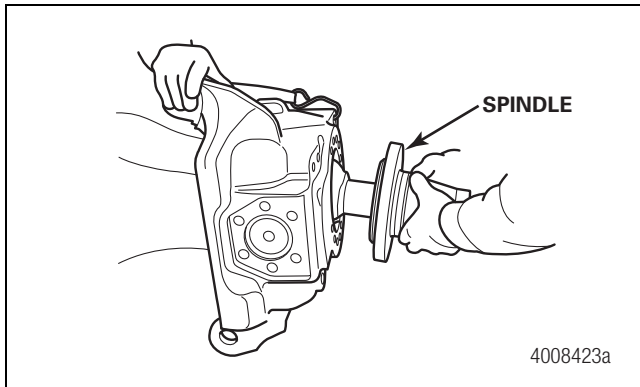

Figure 3.2
1. If they have not already been previously removed, remove the mounting bolts from the spindle. Remove the spindle from the knuckle. Figure 3.2.